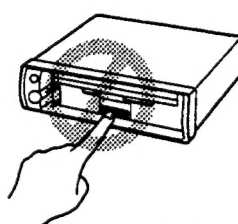
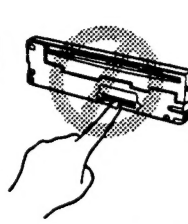

Fig. 9
Fig. 10
- Do not touch the contacts on the front panel or on the unit body, since this may result in poor electrical contact. If dirt or other foreign substances get on the contacts, wipe them with a clean, dry cloth. (Fig. 9) (Fig. 10)